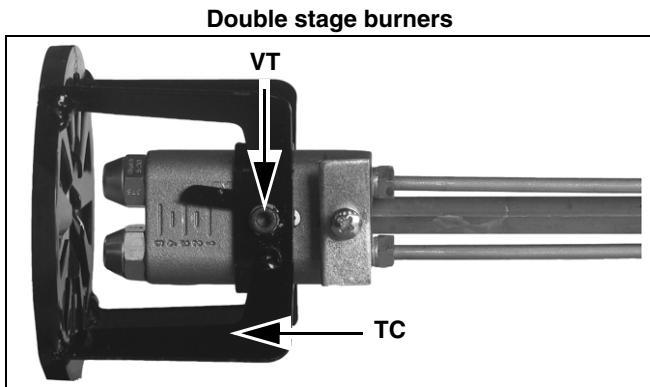
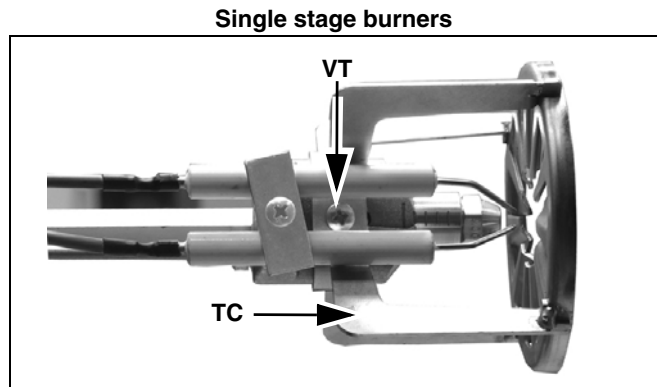

Fig. 51
Fig. 52
- Unscrew the Allen screw **VT** and remove the combustion head **TC** (as shown on Fig. 51-Fig. 52).